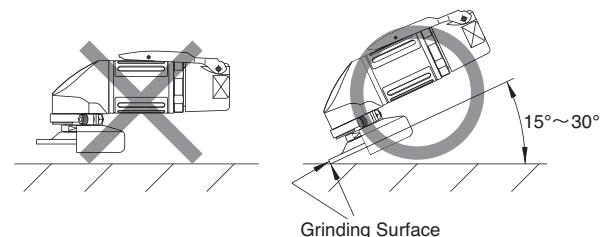

Fig. 1
- **Always operate the grinder at the correct angle. (15°~30°) . (Fig.1)**